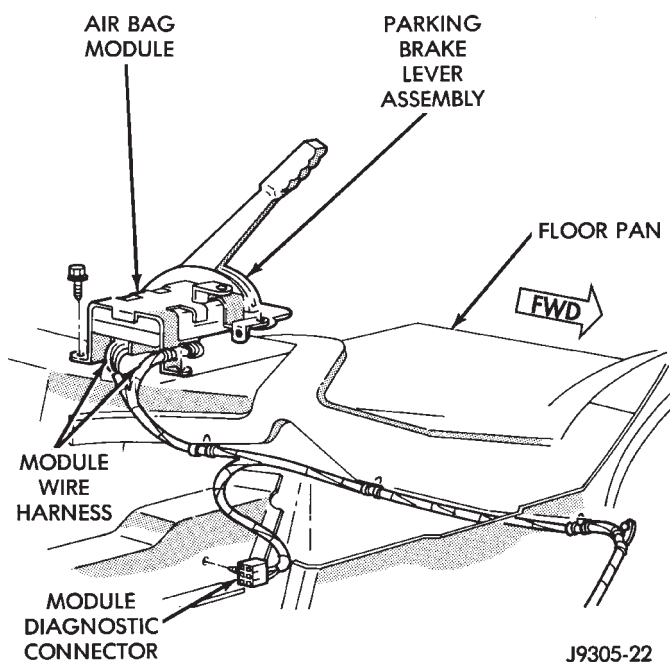

Fig. 3 Air Bag Module Mounting
- (9) Disconnect wires at parking brake switch and at air bag module (Figs. 3 and 5). Note that air bag module has two sets of wires connected to it.
- (4) Connect parking brake switch wire.
- (5) Install air bag module (Fig. 3). Be sure all module wires harnesses are securely connected.
- (6) Install parking lever cover.
- (7) Install cup holder in cover.
- (8) Raise vehicle.
- (9) Assemble front cable, cable tensioner and equalizer.
- (10) Adjust parking brake front cable. Refer to procedure in this section.
- (11) Lower vehicle.
- (12) Connect battery negative cable.